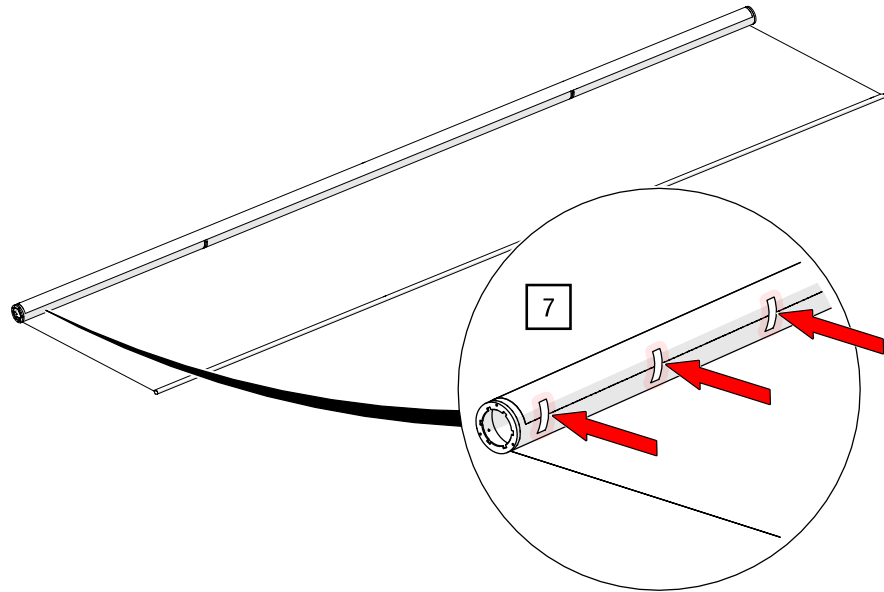

Fig. 26: Fitting the screen fabric – securing the fabric with adhesive tape
7. Place the screen fabric parallel to the axis and centred on the CFRP-tube and secure it without folds or tension using thin strips of adhesive tape at intervals of 20 to 30 cm (see Fig. 26).